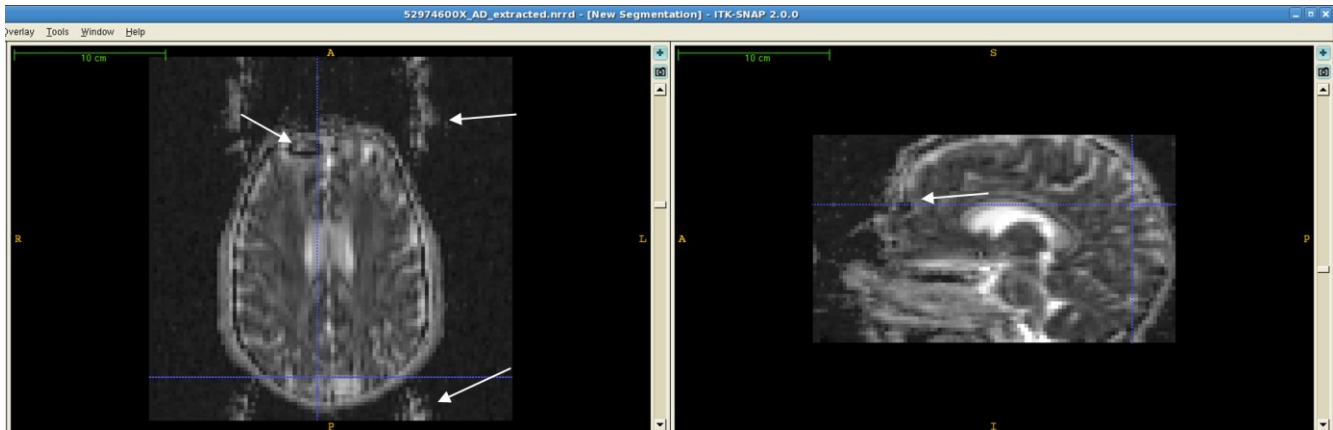
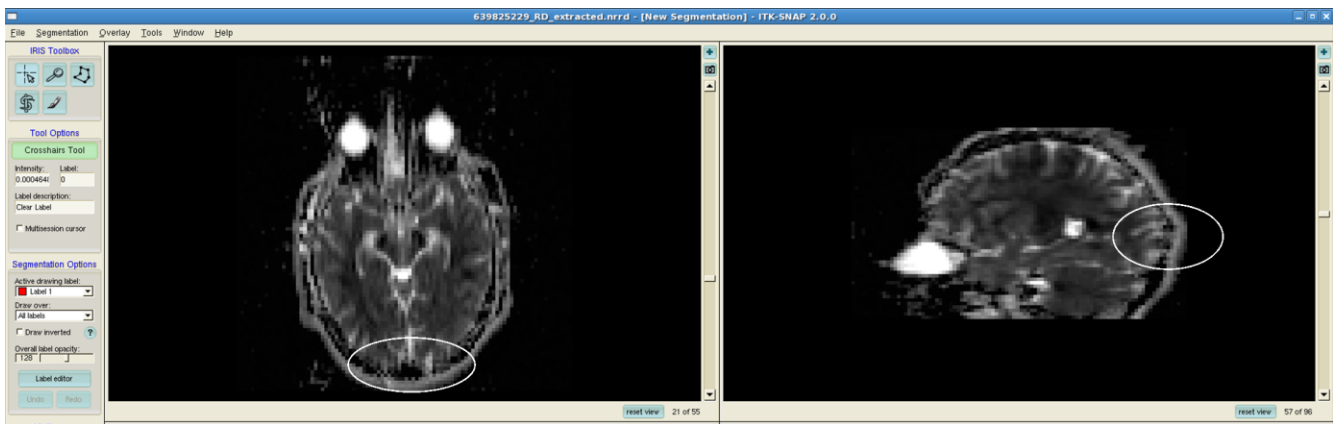

Figure 4.9 Wrapping artifacts, anterior pre-frontal signal loss, and frontal distortion shown in AD
Figure 4.10 Posterior occipital signal loss
- Figure 4.9 displays evidence of both wrapping artifacts and pre-frontal distortion-related signal loss. A similar type of artifact is shown in the posterior part of the occipital lobe in Figure 4.10